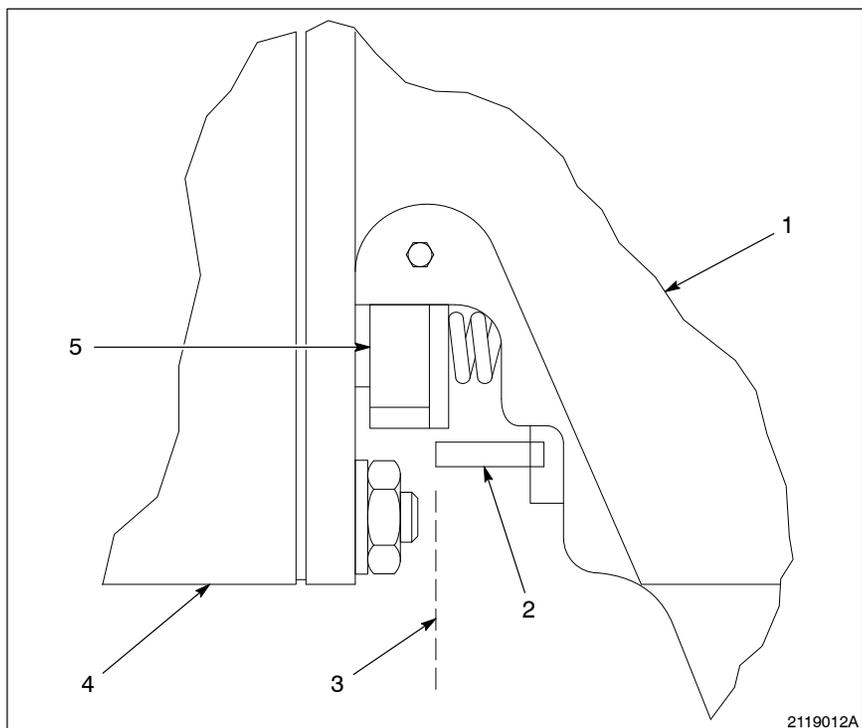

Fig. 7-5 Adjusting the Trigger Puller
- a. See Figure 7-5. Rotate the trigger puller (5) until the end of the air valve needle (2) aligns with the flange on the gun extension (4) side of the puller. This is the adjustment starting point (3).